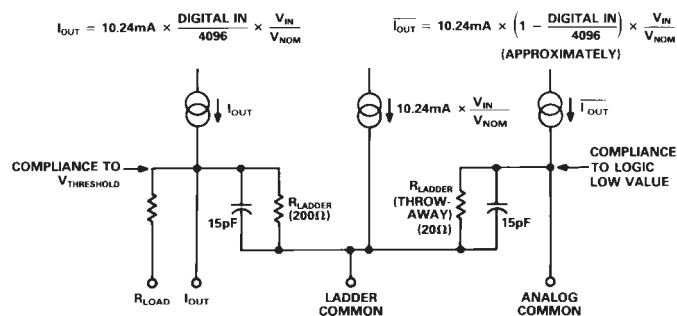

Figure 4. Equivalent Output Circuit
1Measured in  $I_{OUT}$  mode. Specified at nominal 5 V full-scale reference.2Measured in  $V_{OUT}$  mode, unless otherwise specified. Specified at nominal 5 V full-scale reference.3Total resistance. Refer to Figure 4.4At the major carry, driven by HCMOS logic.5 $V_{OUT} = 1$  V p-p,  $V_{IN} = 10\%$  to  $110\%$ , 100 kHz. Digital Input All 1s.6 $V_{IN} = 200$  mV p-p, 1 MHz Sine Wave. Digital Input all 0s. See Figure 20.7Measured at  $15$  V  $\pm 10\%$  and  $12$  V  $\pm 10\%$ .Specifications shown in **boldface** are tested on all production units at final electrical test.
The AD668 has an output compliance range of -2.0 V to +1.2 V (with respect to the LCOM pin). The current steering output stages will be unaffected by changes in the output terminal voltage over this range. However, as shown in Figure 4, there is an equivalent output impedance of 200  $\Omega$  in parallel with 15 pF at the output terminal, producing an equivalent error current if the voltage deviates from the ladder common. This is a linear effect which does not change with input code. Operation beyond the maximum compliance limits may cause either output stage saturation or breakdown, resulting in non-linear performance. The positive compliance limit is not affected by the positive power supply, but is a function of the output current and the logic threshold voltage at  $V_{TH}$ , Pin 13.
The internal wiring and pinout of the AD668 are dictated in large part by current management constraints. When using low impedance, high current, high accuracy parts such as the AD668, great care must be taken in the routing of not only signal lines, but ground and supply lines as well. The following accounting provides a detailed description of the magnitudes and signal dependencies of the currents associated with each of the part's pins. These descriptions are consistent with the functional block diagram as well as the equivalent circuits provided in Figures 4, 5, and 6.
**IOUT** – the output current. In the current output mode with this node tied to a virtual ground, a 10.24 mA nominal full scale output current will flow from this pin. In the voltage output mode, with  $R_L$  grounded, half of the output current will flow out of  $R_L$  and the other half will flow out of LCOM. External resistive loading will cause current to be divided between LCOM,  $R_L$ , and  $I_{OUT}$  as Figure 4 suggests.
**ACOM** – as indicated in Figure 4, the current flowing out of this pin is effectively the complement of IOUT, varying with both analog and digital inputs. Using this current as a signal output is not generally advised, since it is untrimmed and its positive output compliance is limited to the logic low voltage.